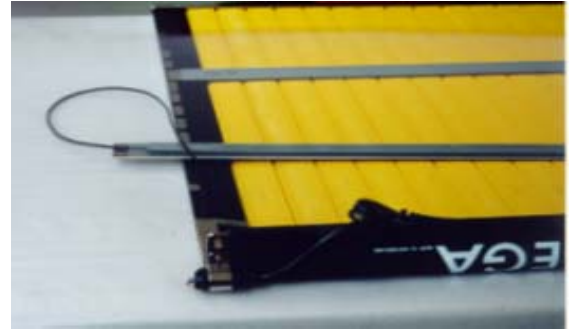

Figure 13 - Maintenance / Contact cleaning I
- Turn up contact system as per Figure 13 / page 12).
- Remove transparent polyester (25).